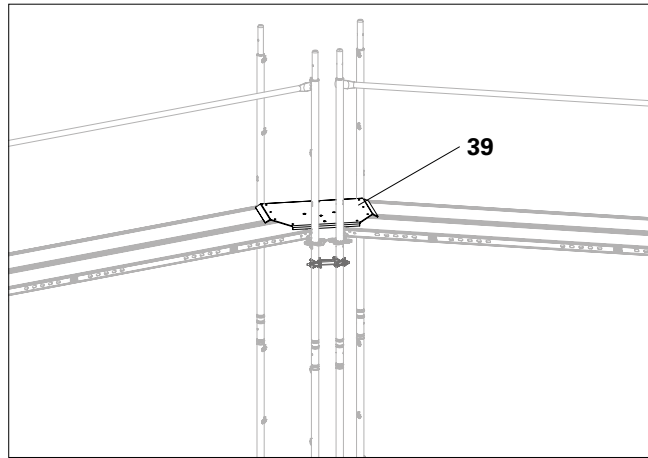

Fig. B7.09
- Cover plate is installed. (Fig. B7.09 – B7.09b)